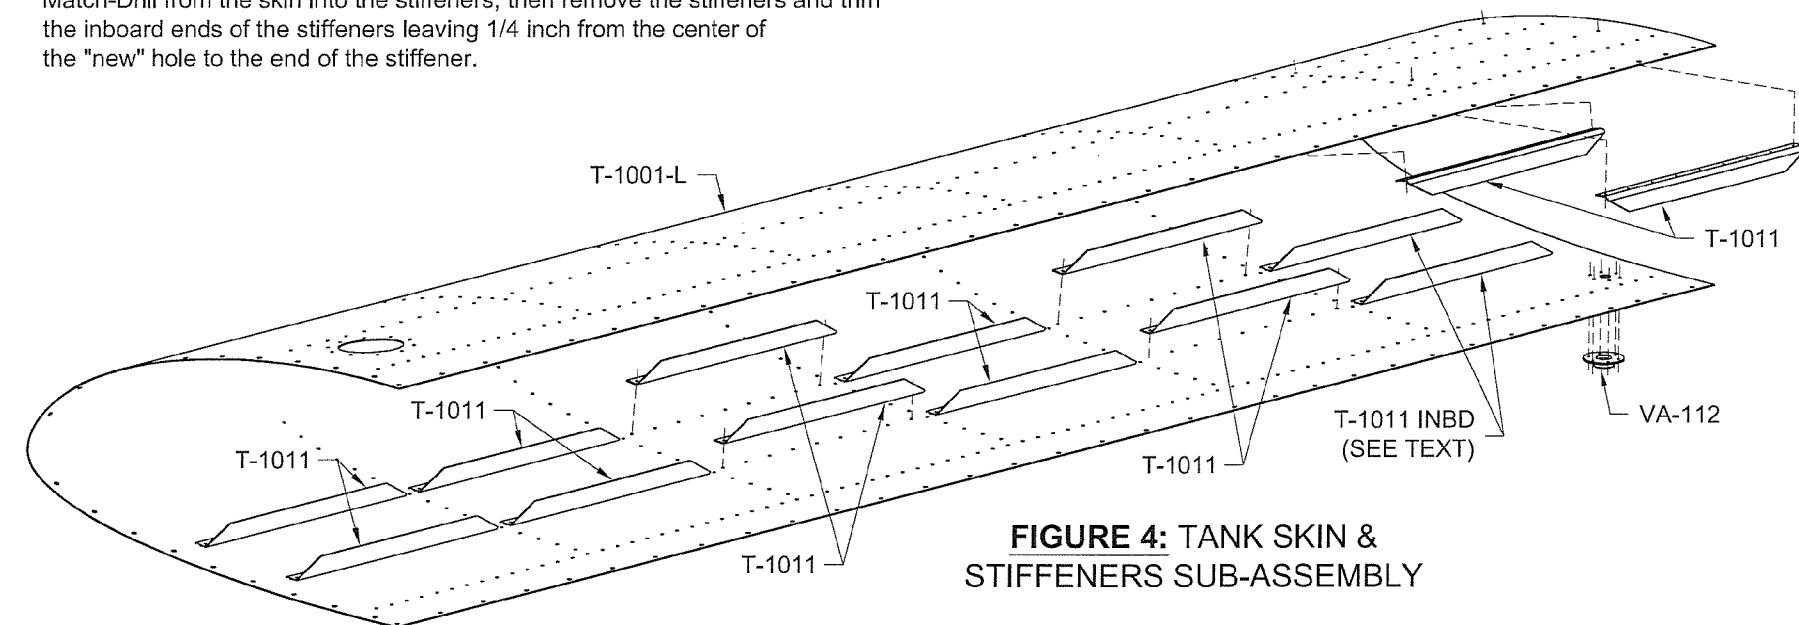

FIGURE 4: TANK SKIN & STIFFENERS SUB-ASSEMBLY
Step 5: Place the T-1001-L Tank Skin in the Leading Edge Assembly cradle. Remove the vinyl film from the inside surface of the tank skin and deburr edges. Cleco all the T-1011 Tank Stiffeners and the VA-112 Drain Flange to the tank skin as shown in Figure 4.